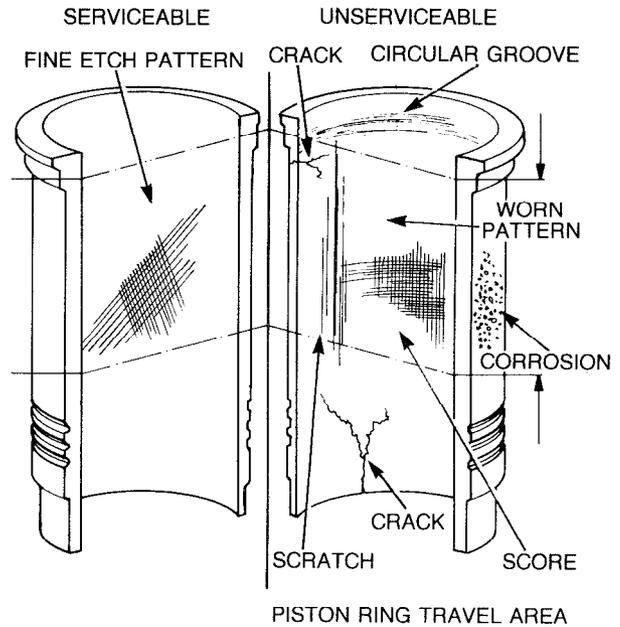

Figure 17 — Cylinder Liner Condition
- q. Inspect the cylinder liners for indications of wear to the bore surface. Replace any cylinder liner, (refer to para. 12) where the cylinder liner etch pattern is worn away or only faintly visible in the piston ring travel area (see Fig. 17).